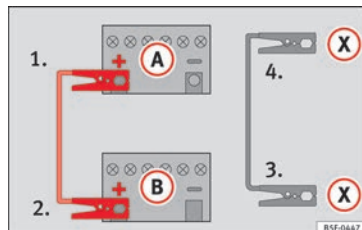

Fig. 73 Diagram of connections for vehicles with Start-Stop system.
- For vehicles with Start-Stop system: connect one end of the *black* jump lead (X) to a suitable ground terminal, to a solid piece of metal in the engine block, or to the engine block itself »» Fig. 73.
- Connect the other end of the *black* jump lead (X) to a solid metal component bolted to the engine block or to the engine block itself of the vehicle with the flat battery. Do not connect it to a point near the battery (A).